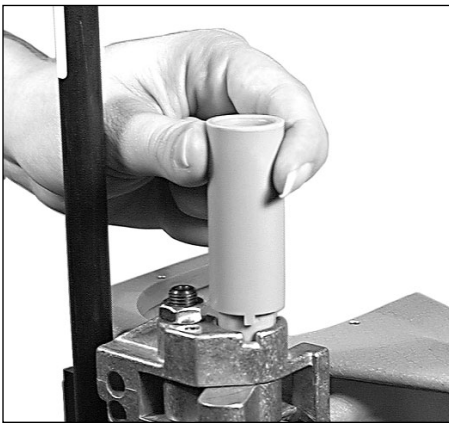

FIG 180
2. Remove the casefeed adapter **FIG 180**.